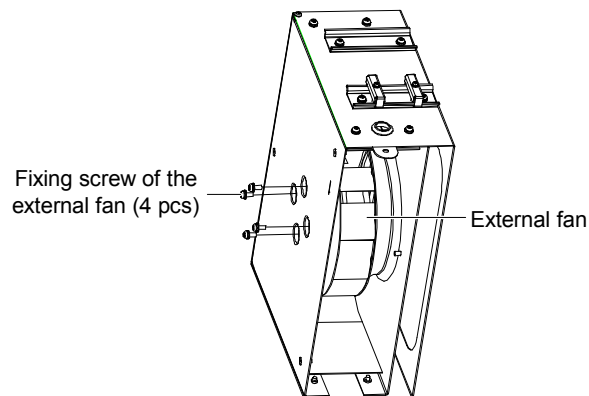

Figure 5-8 Removing the external fan
Step 4: Loosen the fixing screws of the external fan shown in Figure 5-8. Adjust the external fan position or replace it with a new one.